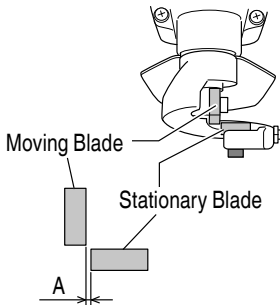
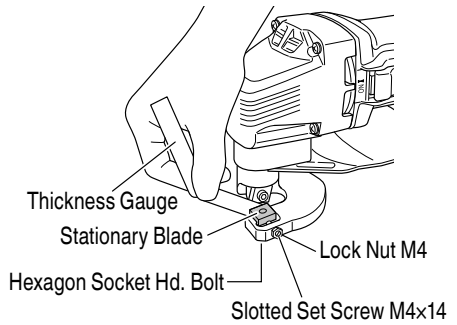

Fig. 5
Fig. 6
5. Changing application tools (Fig. 5, 6)
Adjust the horizontal gap between the shearing blades (A in Fig. 5) at approximately 1/10 the steel plate thickness to be sheared, according to the following procedures. (Fig. 6)